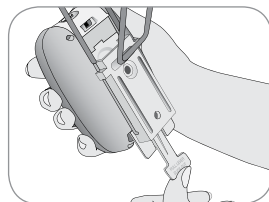

Fig. 10
2. Slide alarm onto bracket from top down until it is firmly in place (fig. 10).